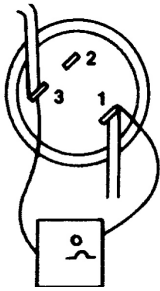
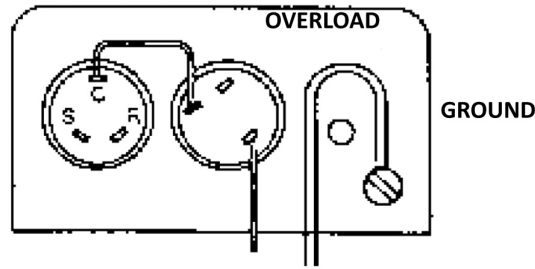

Figure 10. Overload Check
Figure 11. Compressor Check
3. Check terminals 1 and 3 on overload. No continuity replace overload. Use a volt-ohm meter. See Figure 10 and Figure 11.